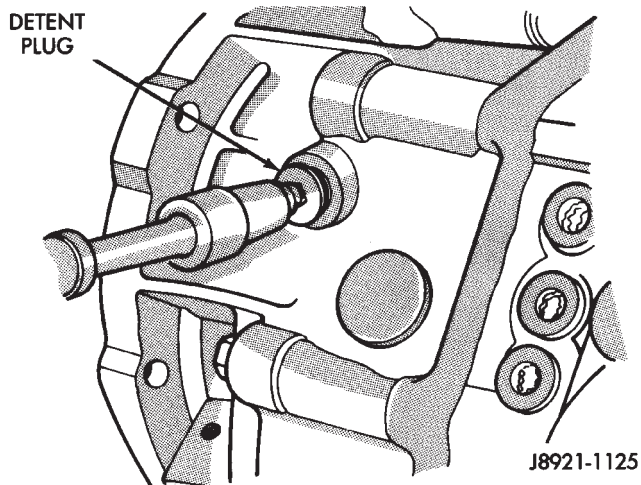

Fig. 20 Remove Detent Ball Plug
(8) Remove reverse shift head detent ball plug (Fig. 20).